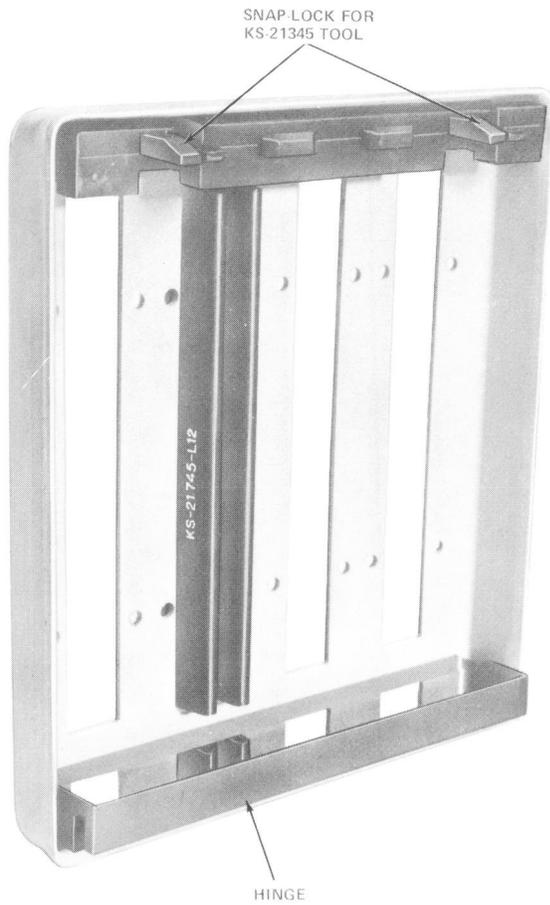

Fig. 14—Rear View of KS-21316-L3
- (1) Using the KS-21345 connecting block removal tool, align the inclines on the face of the tool with the *snap-in* lock on the top rear of the test/talk panel as shown in Figure 14.
- (2) Press forward on the tool to release the top of the panel from the frame. This allows the top of the panel to hinge forward from the bottom.
- (3) Remove the test/talk panel from the frame by lifting it off of the bottom hinge.